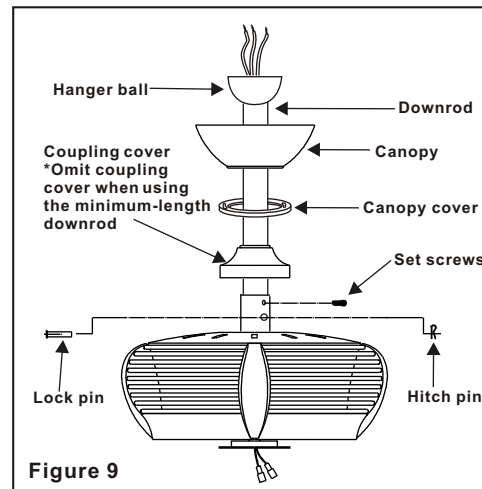

Figure 9
Step 5. Slip coupling cover, canopy cover and canopy onto downrod. (Fig.9) Carefully reinstall hanger ball onto rod being sure that cross pin is in correct position, set screws are tighten and wires are not twisted.